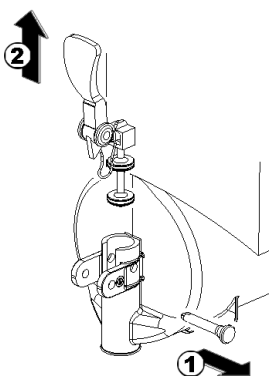

figure 12
- Dismantle the faucet assembly (see figure 12).
- Assemble the faucet by reversing the disassembly steps (see figure 12)